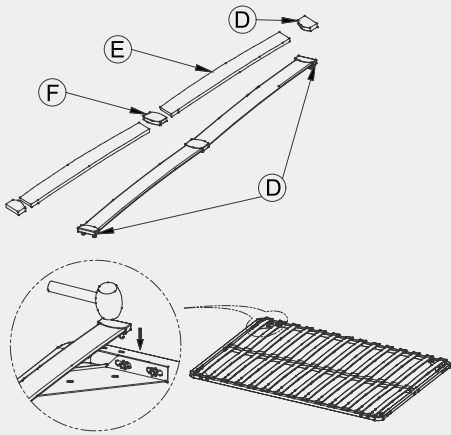

Fig.2
2. Now fix the bed platform to the top brackets (Ref. Fig.2).
2. Kindly identify Left (L) & Right (R) pipe as depicted above
3. Fit the Slat in Single & Double Plastic Cap and fix on the frame with the help of Plastic Hammer as shown in Fig.2.